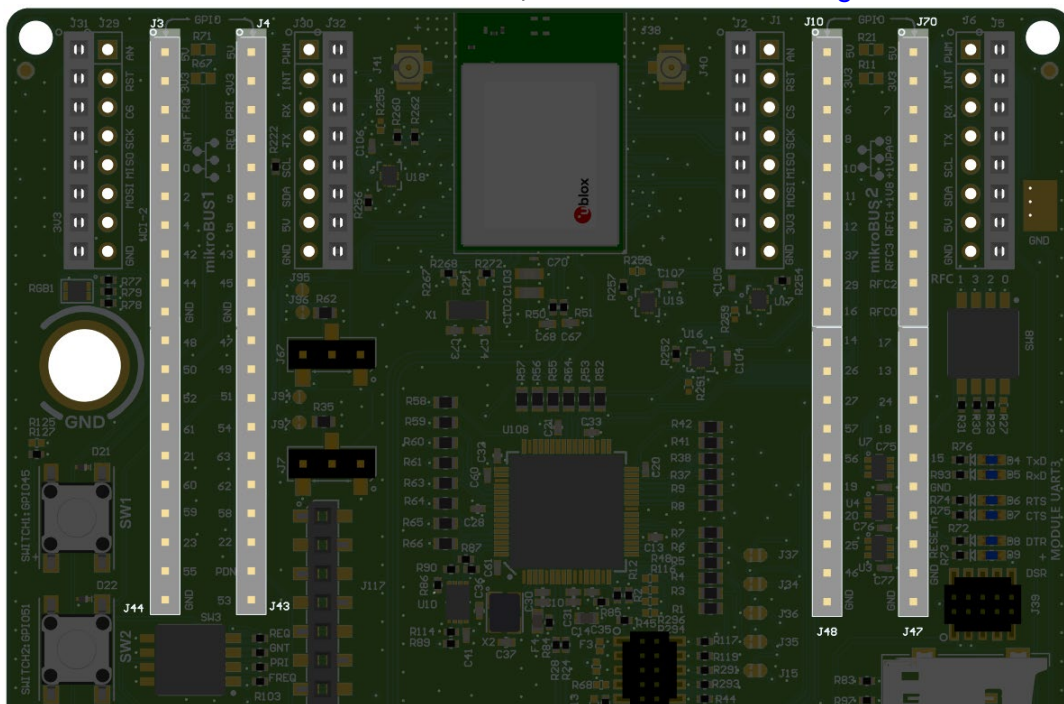

Figure 29: Pin headers
All GPIOs on IRIS-W10, except PSRAM-related GPIOs, are accessible on through-hole (TH) pin headers **J3**, **J4**, **J10**, **J43**, **J44**, **J47**, **J48**, and **J70**, as shown in Figure 29.